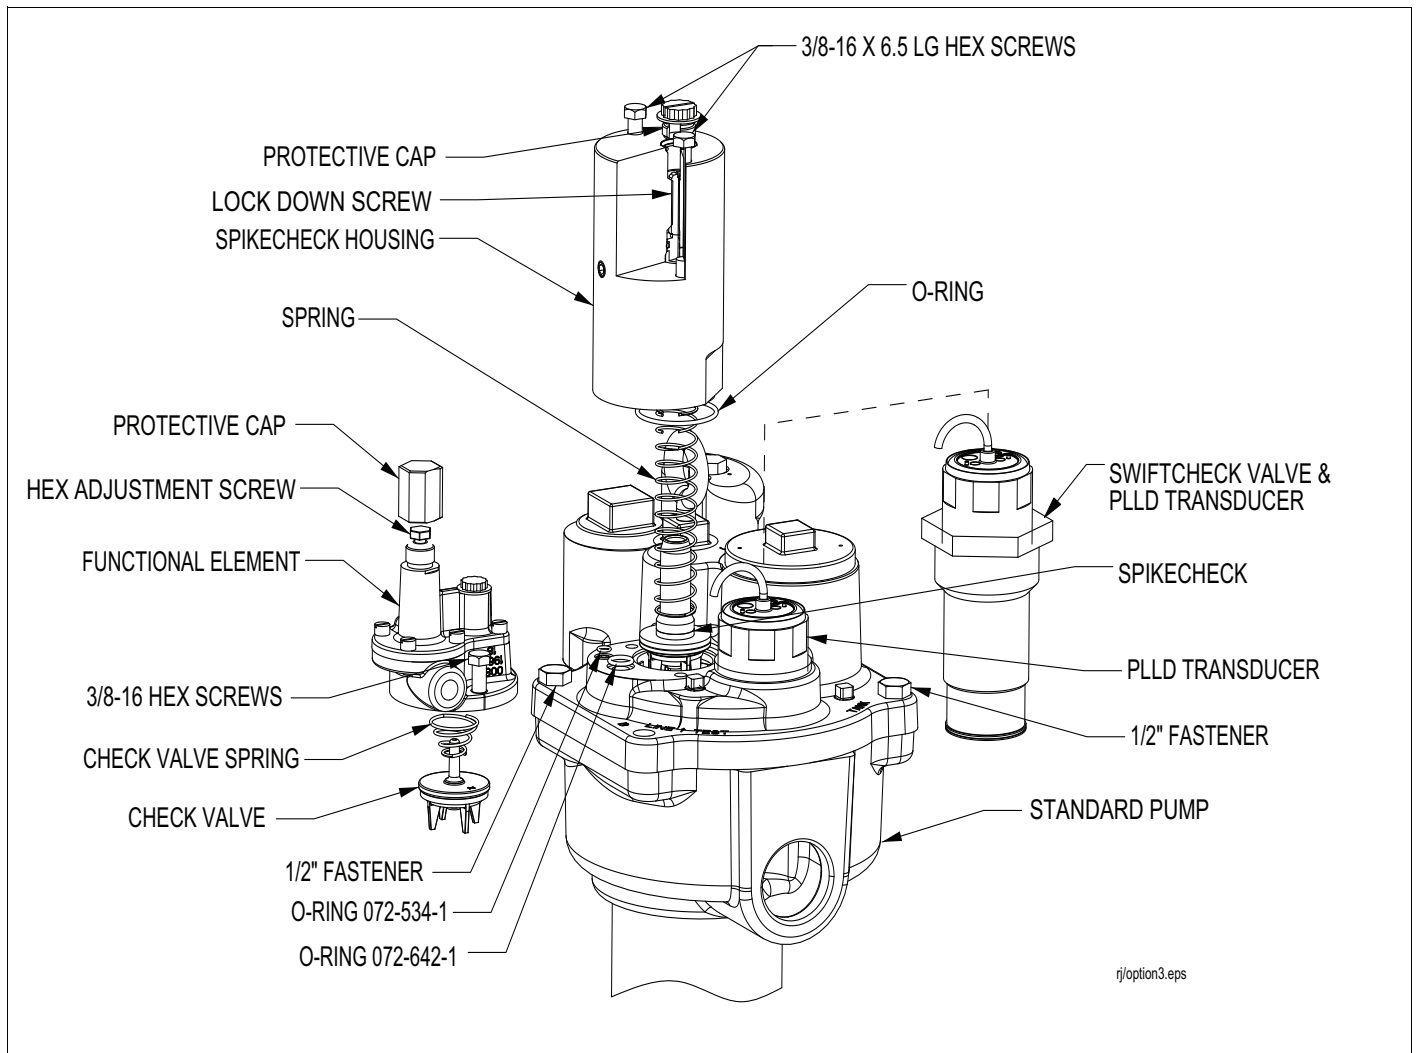

Figure 3. Option 3 – Converting a Standard Packer/Manifold Containing a SwiftCheck Valve and PLLD
2. Depressurize the packer by removing the protective cap on the functional element and rotate the hex screw counterclockwise to relieve pressure back to the fuel storage tank (See Figure 3).